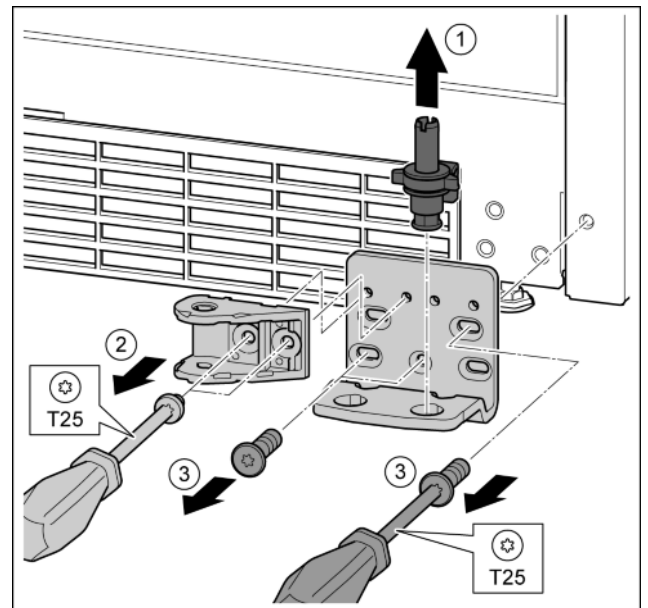

Fig. 30
- ▶ Lift the bearing pin completely upward and remove. Fig. 30 (1)
- ▶ Remove the screws with the T25 screwdriver and remove the soft stop connection. Fig. 30 (2)
- ▶ Undo the screws with a T25 screwdriver and remove the bearing bracket *Fig. 30 (3)*